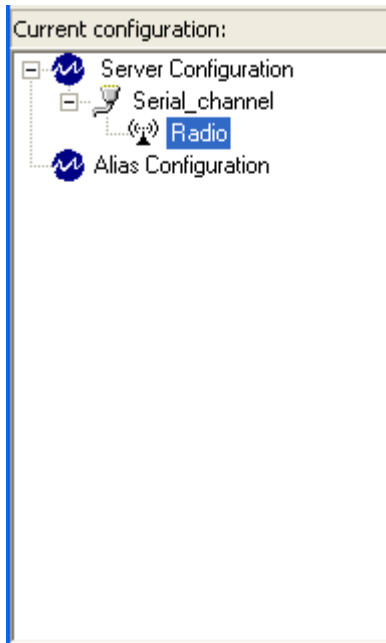

Figure 41 - New Radio Link
- Click on the **OK** button. The object is created and will appear as a child of the **Serial Channel** item as shown in Figure 41.